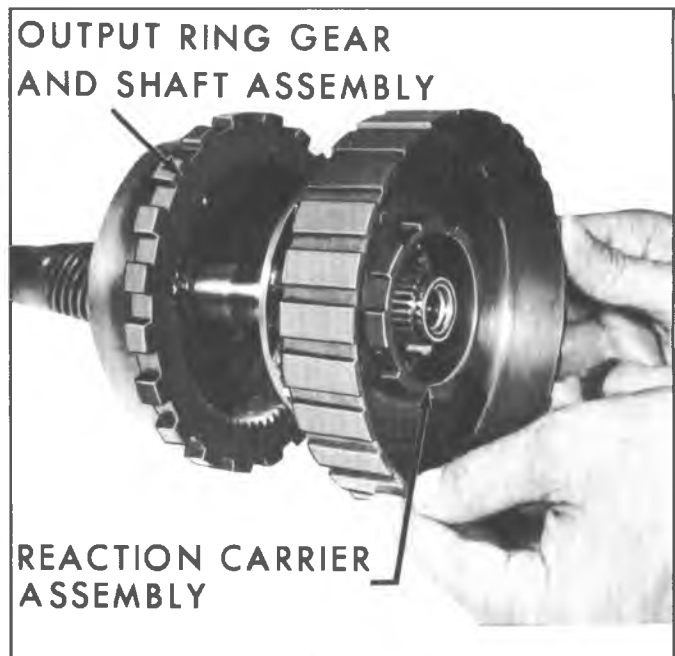

Fig. 40N--Removing Reaction Carrier Assembly
- 16. Remove reaction carrier assembly from output ring gear and shaft assembly (fig. 40N).